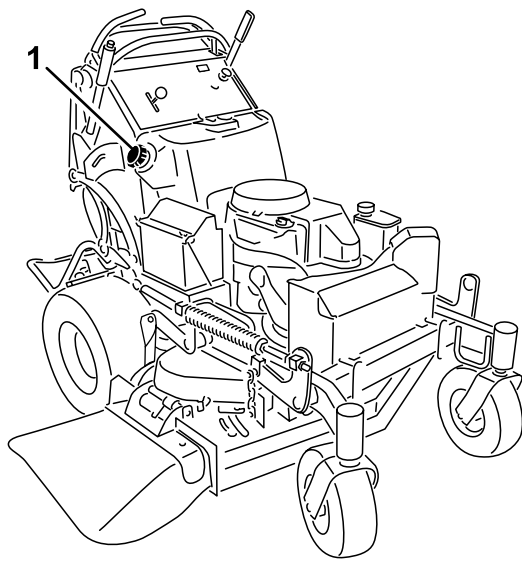

Figure 48
3. Clean around the fuel cap to prevent debris from getting into the fuel tank (Figure 48).
6. Using the syphon pump, drain the fuel into a clean fuel can (Figure 48).